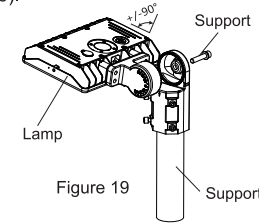

Figure 19
3. ADJUSTABLE FITTER MOUNTING (AM)
Step 1: Connect the wire correctly and put the wire into pole. Then fasten the locking bolts between slip fitter and the pole (Figure 19);
Step 2: Loosen the fixing bolts and adjusting bolts, adjust fixture angle as per actual demands. Tighten adjusting bolt and fixing bolts after the angle is confirmed(Figure 19).
Notice: Adjustable angle is 0~+/-90°(Figure 19)